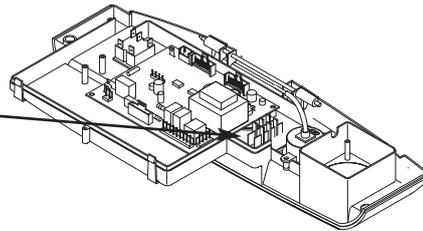

Fig. 3
2. Undo the screws securing the cover and release the cover retaining barbs from their slots. Disengage the rear of the cover from the facia hinge pin and lift the cover away (Fig. 3).